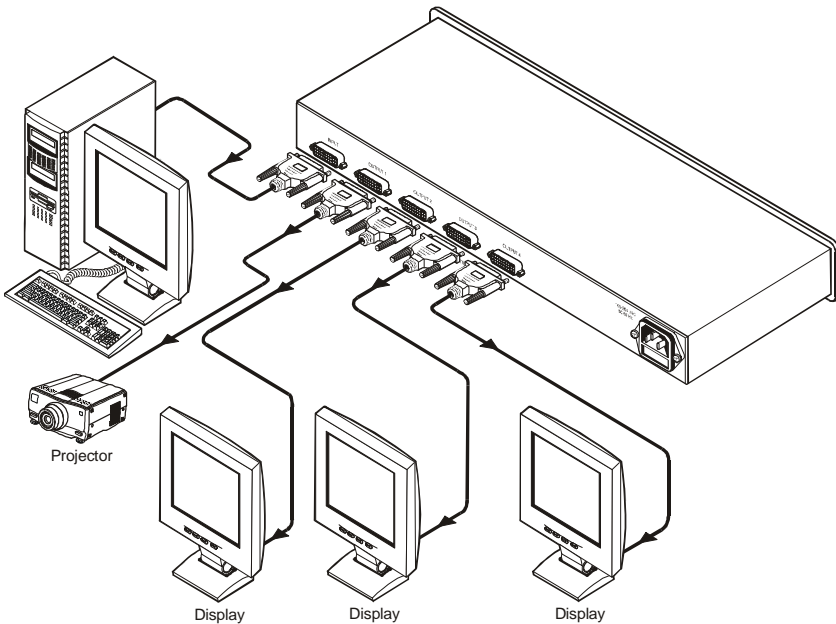

Figure 2: Connecting a VM-4HDCP 1:4 DVI Distributor
To connect the **VM-4HDCP** as illustrated in the example in Figure 2, do the following:
3. Connect the power cord to the mains electricity (not shown in Figure 2).